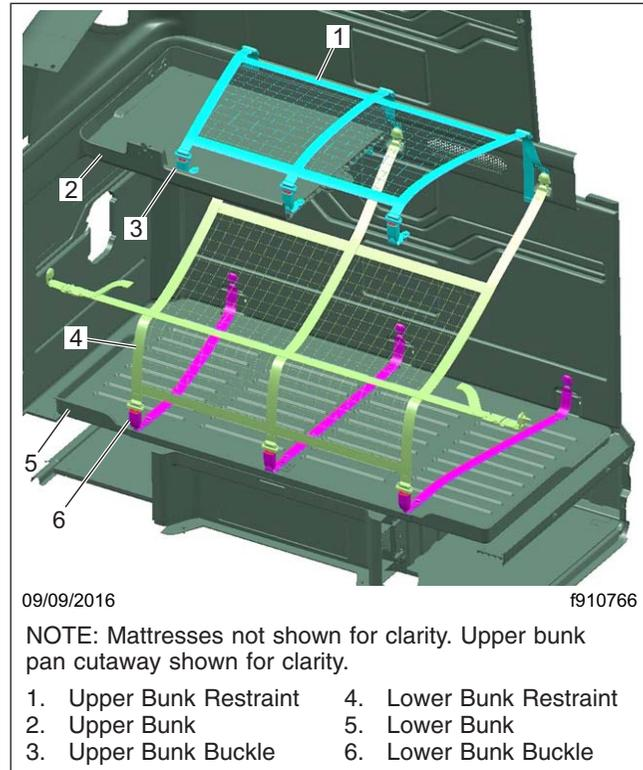

Fig. 9.13, Bunk Restraints
1. Starting at the foot of the bunk, pull the link end of the belt up far enough to engage the buckle. See **Fig. 9.13**.